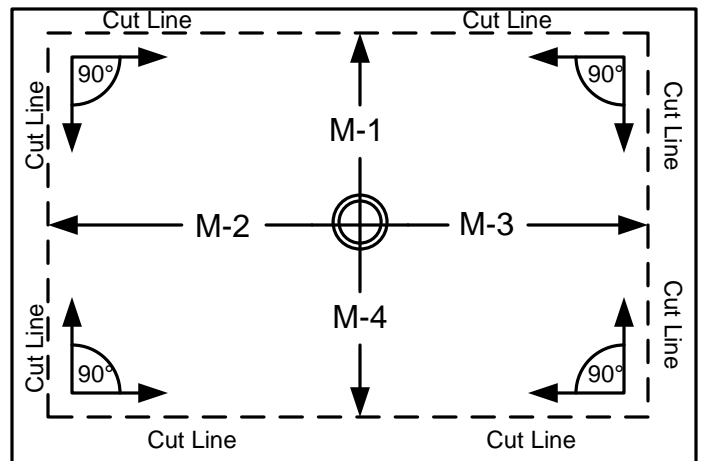

Figure 2
Step 2: Using M-1, M-2, M-3, & M-4, mark “cut line” on the top of the “Qwick-Slope” as shown. Using a circular saw or jig saw, cut on the outside of the “cut line”. Test fit the cut “Qwick-Slope before proceeding. See Figure 2.